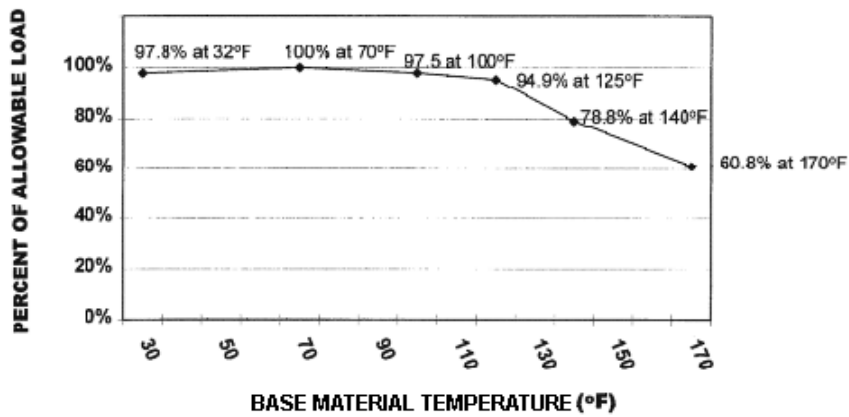

FIGURE 1—EPOXY TIE ET ADHESIVE IN-SERVICE TEMPERATURE SENSITIVITY GRAPH
2.3.3 Temperature Limitations: Adhesive anchor performance is temperature-sensitive. The allowable loads of anchors installed with Epoxy Tie ET must be adjusted in accordance with Figure 1 where the base material temperature exceeds 70°F (21.1°C).